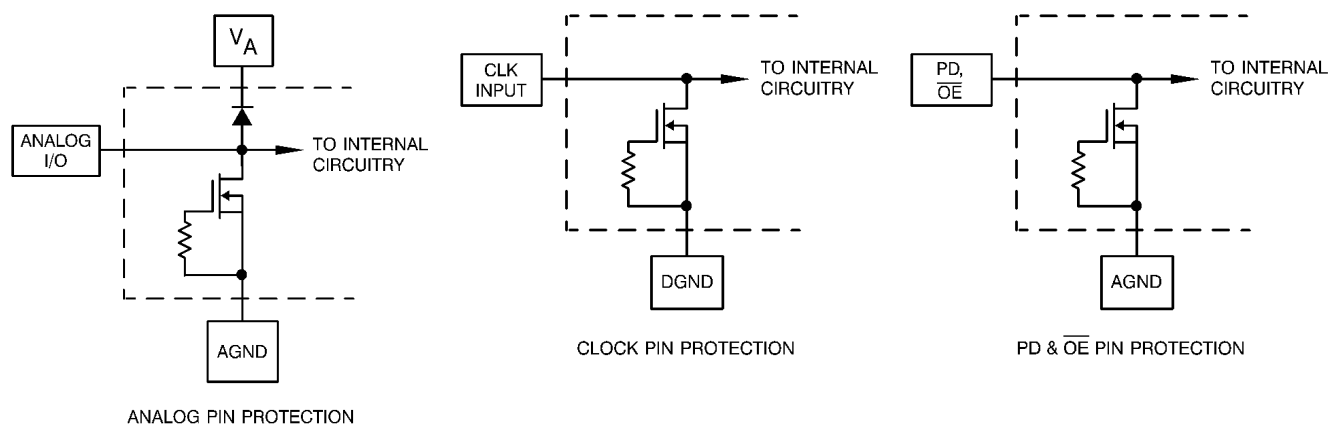

Figure 1.
- (1) The inputs are protected as shown in Figure 1. Input voltage magnitudes up to 500mV beyond the supply rails will not damage this device. However, errors in the A/D conversion can occur if the input goes above V_A or below AGND by more than 300 mV.
- (2) Typical figures are at $T_A = T_J = 25^\circ C$, and represent most likely parametric norms.
- (3) Tested limits are guaranteed to TI's AOQL (Average Outgoing Quality Level).